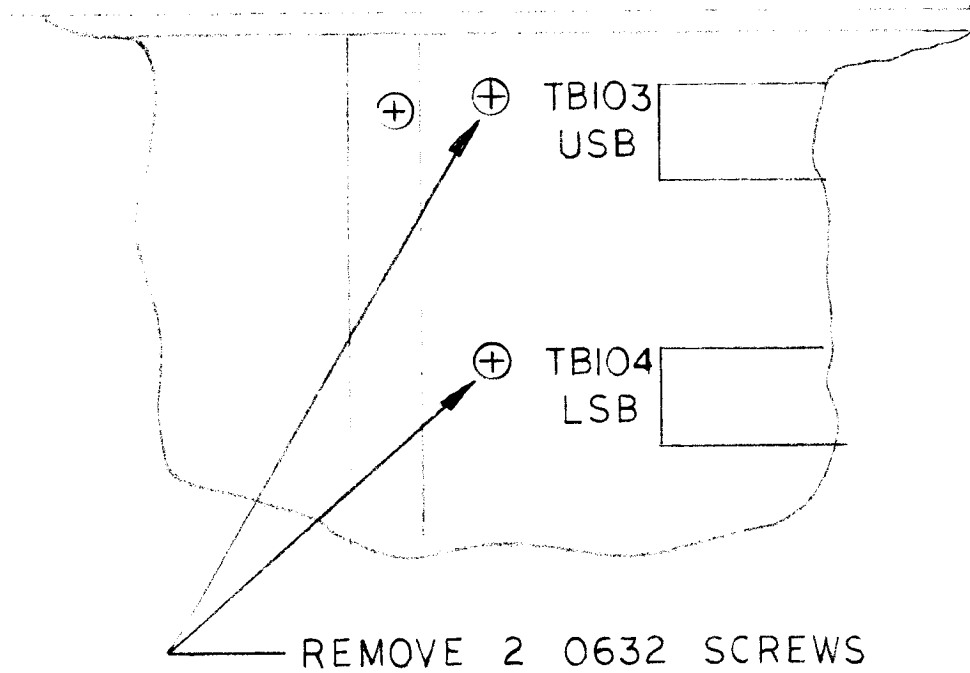

FIG. 1
2. Remove the two screws shown in Fig. 1 and discard.